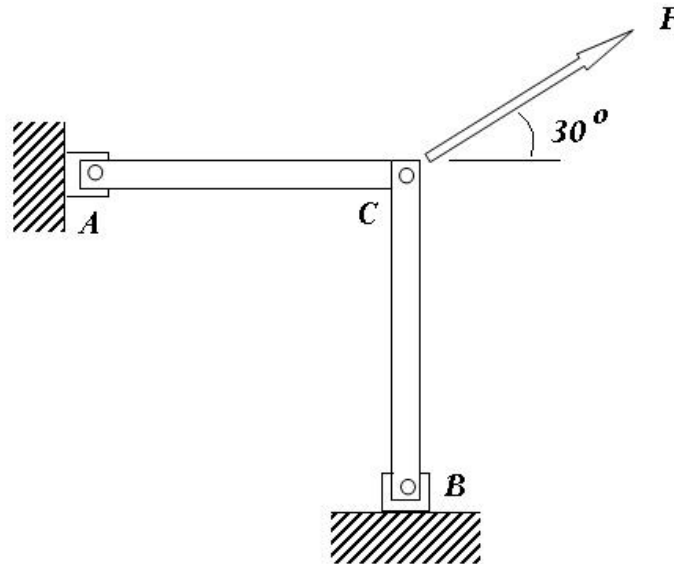

Fig. Q5
5. A pin-jointed framework, consisting of two truss members, is subjected to an external load F as shown in Figure Q5. Each member of the structure has the length L , cross sectional area A and modulus of elasticity E .